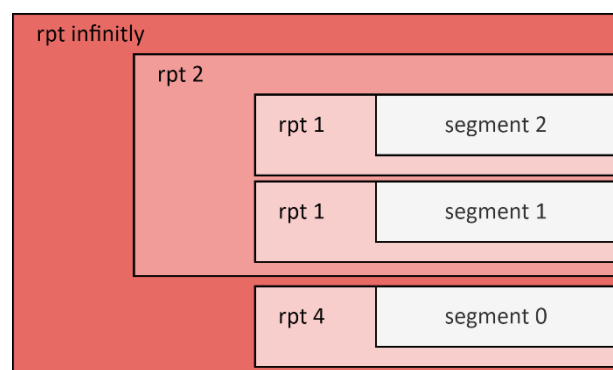

Figure 6: Script and visualization of an example sequence
2. Prepare a script like the one depicted in Figure 6.